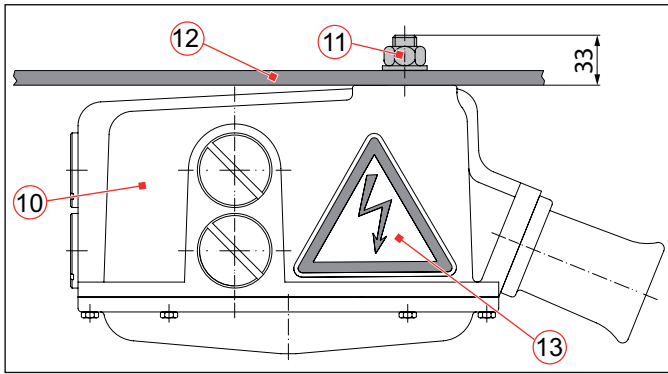

Fig. 21: Install cable junction box (10) with nuts and screw locking devices (11) to the mounting frame (12) and glue on warning plate (13)
- ▶ Screw the cable junction box (*Fig. 21/10*) with 2 nuts M16 incl. screw locking devices (11) from below to the prepared mounting frame (12). Torque for the fixing screws: 150 Nm
- ▶ Then, attach the included warning plate (13).